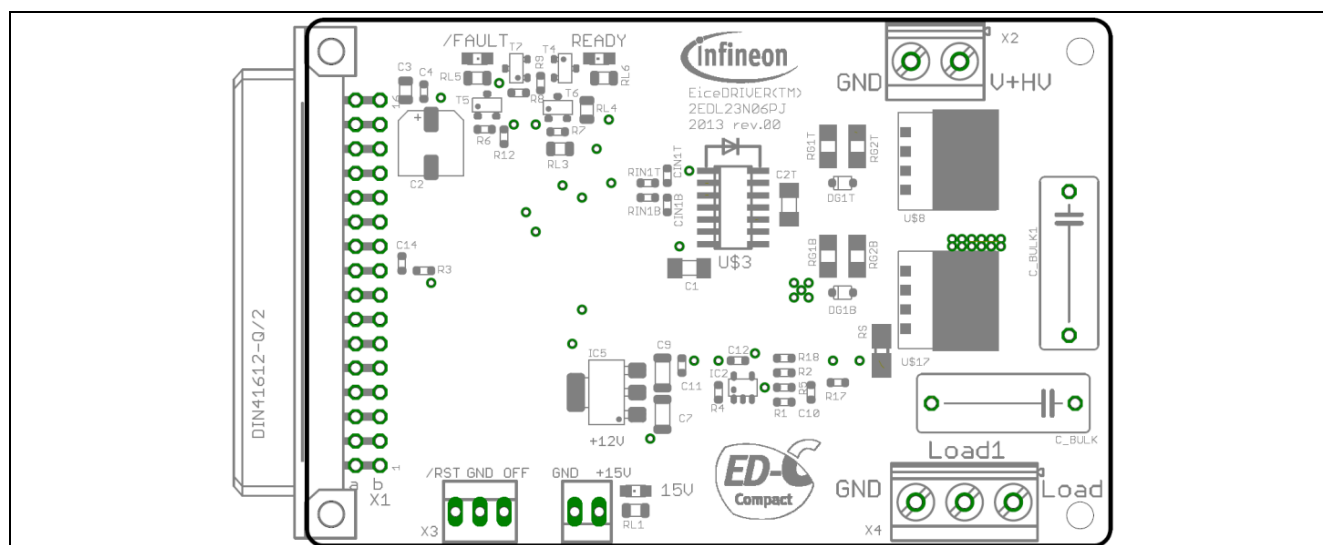

Figure 22 Top place view of the EVAL-2EDL23N06PJ
*see Figure 22 for connector pin numbering